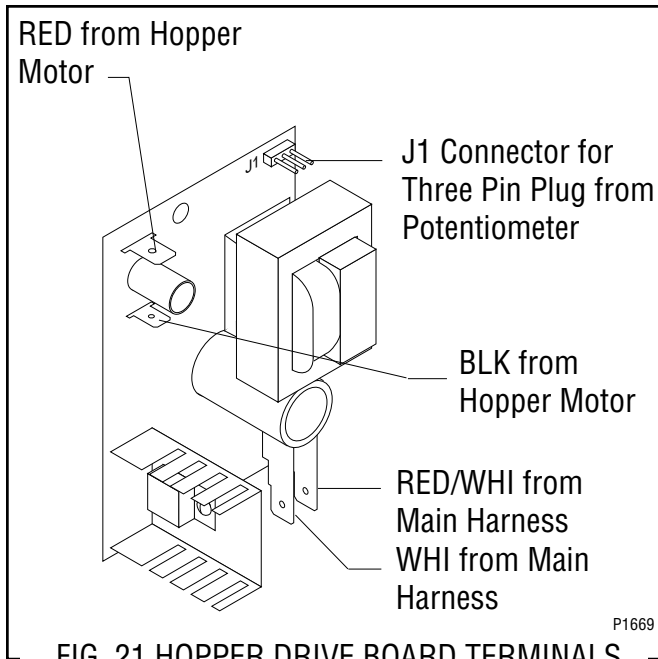

FIG. 21 HOPPER DRIVE BOARD TERMINALS
1. Remove hopper assy (17), and set aside for reassembly.
2. Remove the four #8-32 screws securing the hopper support plate (12), remove plate and set aside for reassembly.
3. Remove the four #8-32 screws, located inside the dispenser housing on the lower right front of the auger motor mounting panel (21), securing auger motor mounting bracket (18) and auger motor (19) to the rear of the auger motor mounting panel (21).
5. Remove auger motor mounting bracket (18), auger motor (19), dust seal (20) and hopper drive board as an assembly.
10. Refer to Fig. 21 and reconnect the wires to the hopper drive board terminals .
11. Connect three pin plug from the potentiometer to the hopper drive board J1. Refer to Fig. 21.
14. Install hopper assy (17).